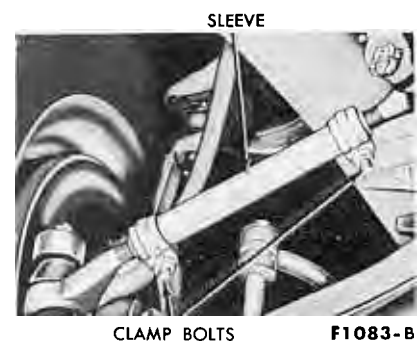

FIG. 9—Spindle Connecting Rod Sleeve—Typical
1. Loosen the two clamp bolts on each spindle connecting rod sleeve (Fig. 9).